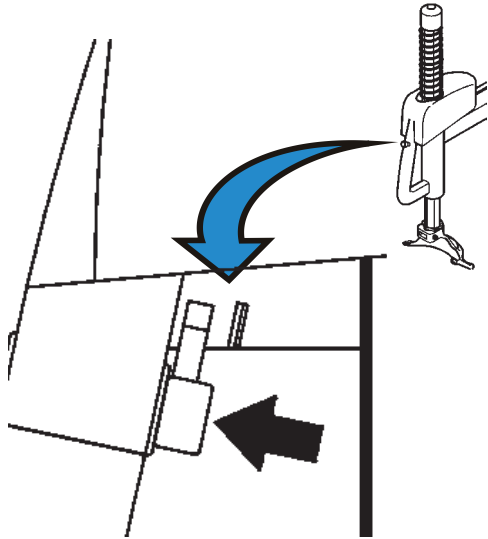

Figure 3.0-2
1. To unlock and let the slide with the tool go up: push the button firmly with the forefinger, in the direction of the arrow (Fig. 3.0-2).